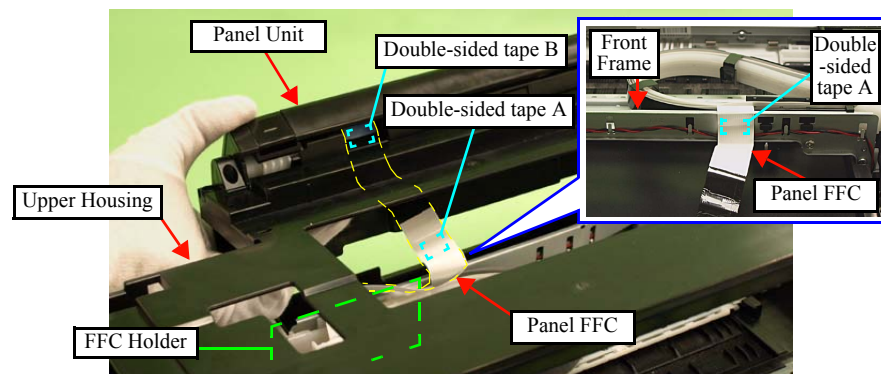

Figure 4-214. Removing the Upper Housing (4)
6. Peel off the double-sided tape A that secures the Panel FFC to the Front Frame, and lift the Upper Housing until the Panel FFC becomes detached from the FFC Holder. (See Fig. 4-214.)
7. Peel off the double-sided tape B that secures the Panel FFC to the Panel Unit. (See Fig. 4-214.)
- Secure the Panel FFC with double-sided tape to the Front Frame. (See Fig. 4-214.)